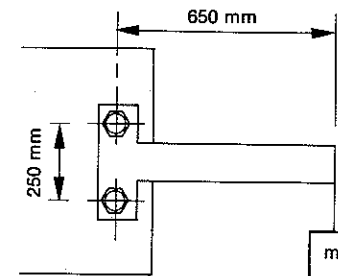

Fig. 5.22
- 5.20 If the mass supported by the bracket in Figure 5.22 is 5 kg , interpret the load as a force and a couple acting through the bolts.